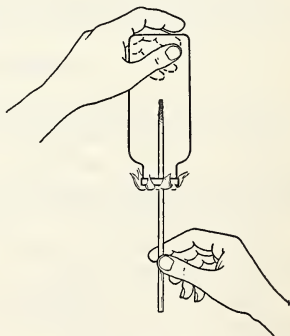

Fig. 36. Thrusting a blazing splint into a bottle of hydrogen.
4. Lift the bottle of hydrogen, collected by the downward displacement of water, from the table, and keeping the mouth down (Fig. 36), slowly insert a long blazing wooden splint. Leave the splint in the bottle for a short time, and then slowly withdraw it.